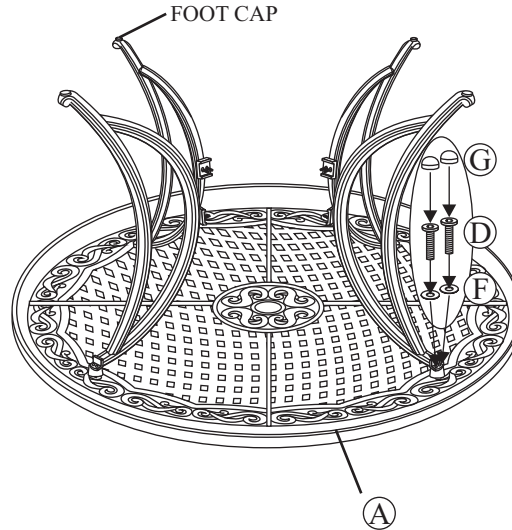

Fig.1
- 1 Place the table top upside down on a flat, non-abrasive surface. Attach the table leg to the table top by using the bolts and washers as shown in the **Fig.1**. Guide the bolts through the holes in the table leg, and into the predrilled holes in the table top. **Hand tighten only**. Repeat for the other three legs.